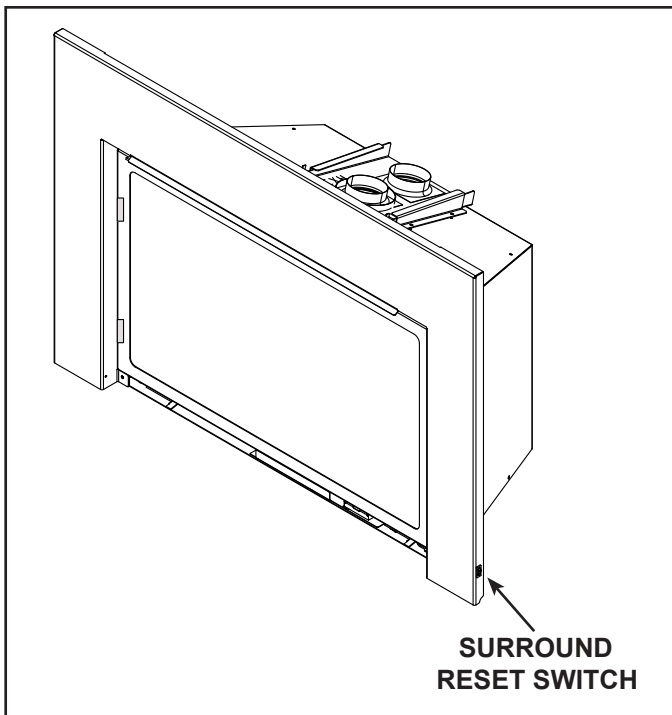

Figure 3.9 Surround Reset Switch
2. Toggle surround manual reset switch position to “OFF”. See Figure 3.9. Check to make sure the ignition module switch is **NOT** in the “ON” position.
- Toggle surround manual reset switch position to “ON”. See Figure 3.9. Check to make sure ignition module switch is in the “REMOTE” position.
- Toggle surround manual reset switch position to “ON”. See Figure 3.9.
- Toggle surround manual reset switch position to “OFF”. See Figure 3.9.
5. The module has the capability to recognize potential malfunctions. If these occur, it will fail to ignite and/or respond to a command to ignite via the wall switch and/or remote. In this case, the module may have gone into LOCK-OUT mode. In this state, it will emit a LED error code. To reset the error code, toggle the appliance reset switch to the OFF position. See Figure 3.9 for reset switch location. If the ignition command again fails, the module will emit an LED error code, prior to going back into LOCK-OUT mode. Contact your dealer for service if this occurs.
- Toggle the appliance reset switch to the off position. See Figure 3.9 for reset switch location.